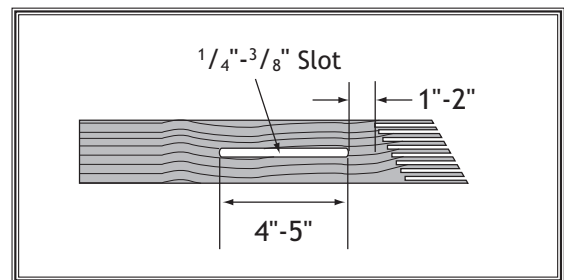

Figure 71. Slot routed in featherboard.
4. Rout a $\frac{1}{4}$ "- $\frac{3}{8}$ " wide slot 4"-5" long in the workpiece and 1"-2" from the short end of the featherboard (see **Figure 71**).